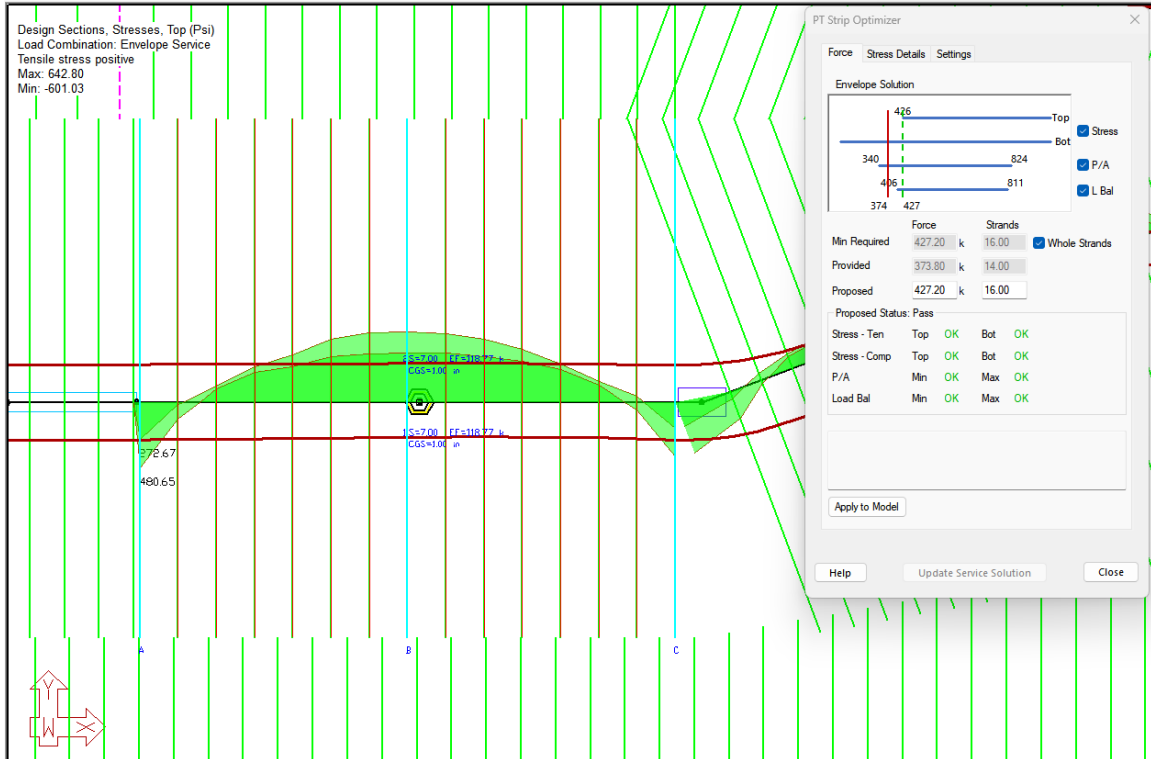

FIGURE 9-99
- The program will highlight 3 design sections in the support line span; one on either end of the span, and one at the middle of the span, as shown in **FIGURE 9-99**. In addition, you can now see information populated in the *PT Strip Optimizer* window.